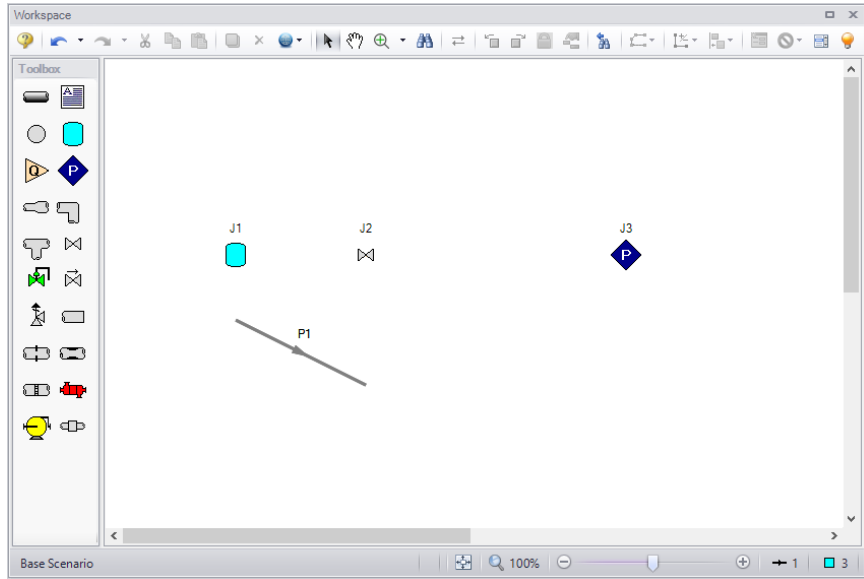

Figure 2.5c First pipe drawn
- **To create a pipe, click the Pipe Drawing Tool icon** on the Toolbox. The pointer will change to a crosshair when you move it over the Workspace. Draw a pipe above the junctions by clicking and dragging the mouse, similar to that shown in Figure 2.5c.